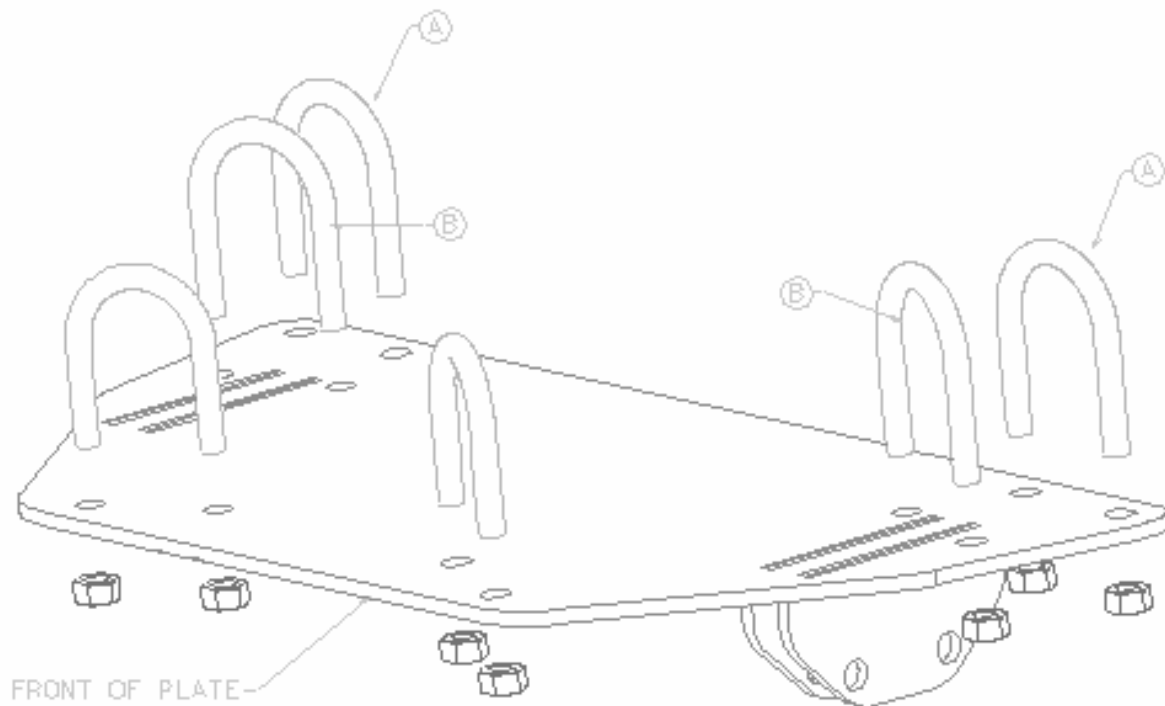

Figure 1 Hole Locations
Note: There are different hole locations on the plow mount depending on the bike model. For Prairie 360 use the middle hole locations (B), for Prairie 650 and Twin Peaks 700 use hole locations (A) on mounting plate, as shown in Figure 1.